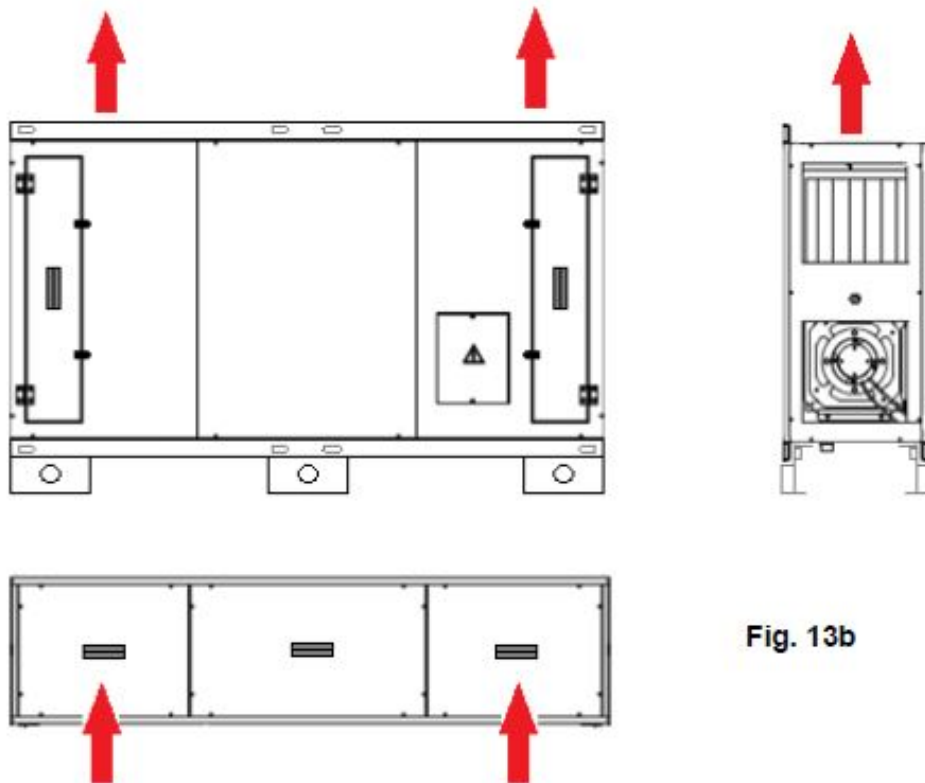

Fig. 13b
2. for the vertical unit, by removing an upper-end panel provided with a recessed handle (fig. 13b)